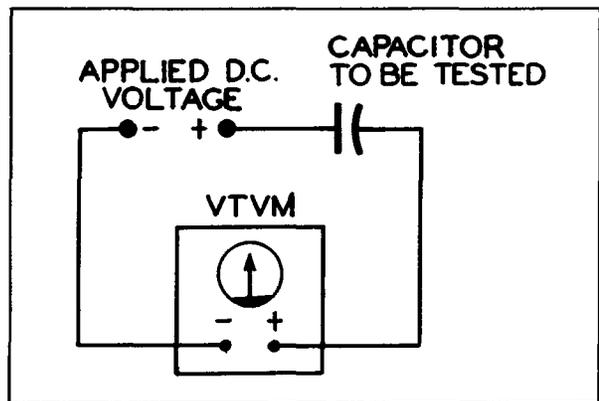

Figure 21. Set up to Check Leakage Resistance of a Paper Capacitor.
2. With the power supply OFF, insert the capacitor to be tested in series with one of the meter test leads. See Figure 21.